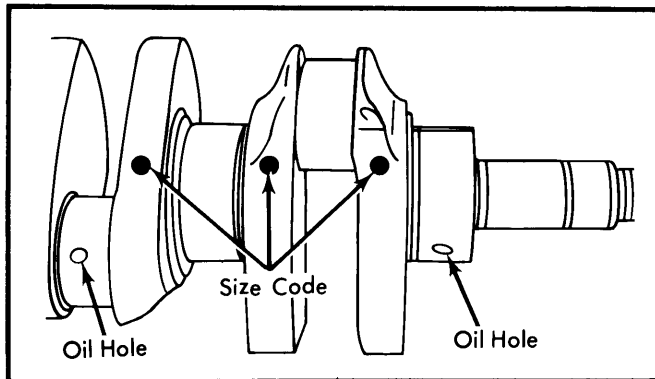

Fig. 11 Crankshaft Color Code Markings
3) Main bearing journals are manufactured in 2 standard sizes. Sizes are designated by a colored dot on crankshaft balance weight next to individual journal. See Fig. 11.